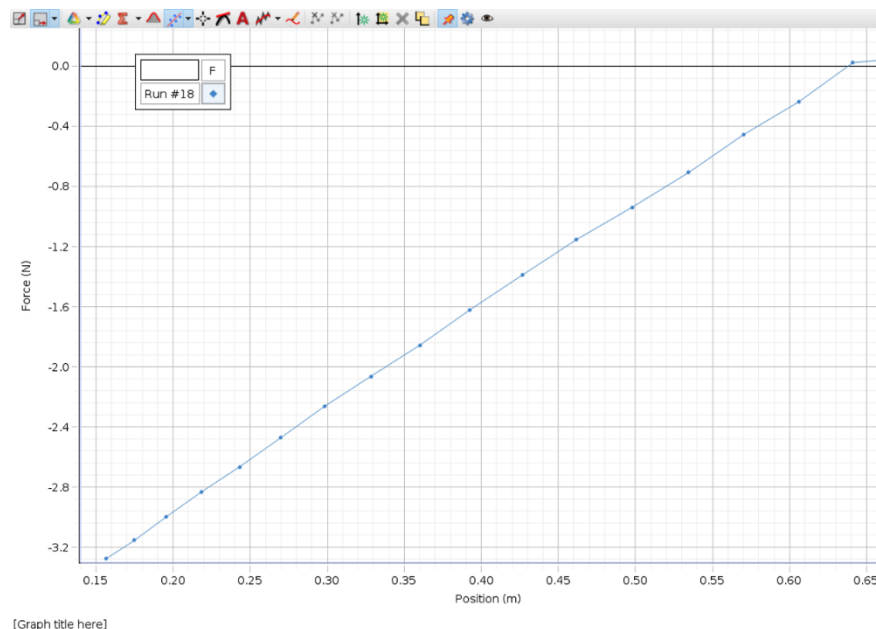

Figure 6: Force versus distance for a linear force.
12. Repeat steps 4 through 7 of the Part I procedure. Your plot should look like the plot in Figure 6.